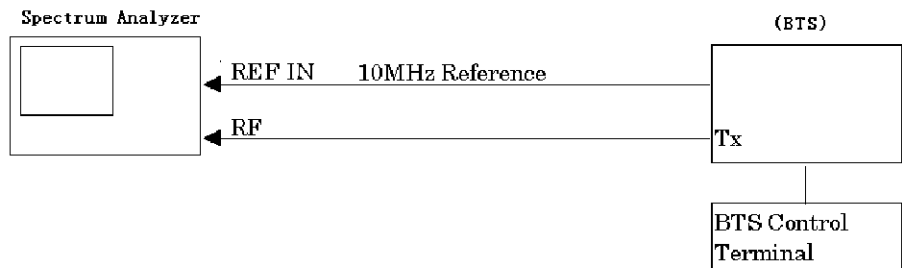

Figure 2-1 Setup for the measurement of the W-CDMA signal (Mask Search Mode)
1. Connect the unit under test as shown in Figure 2-1.